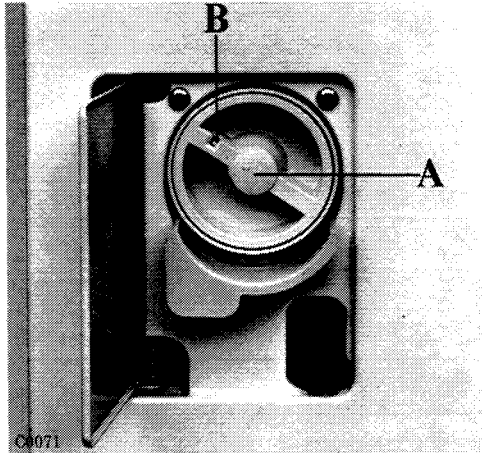

fig. 11
3. Shift safety slider A (fig. 11) until the red notch B (fig. 11) disappears.